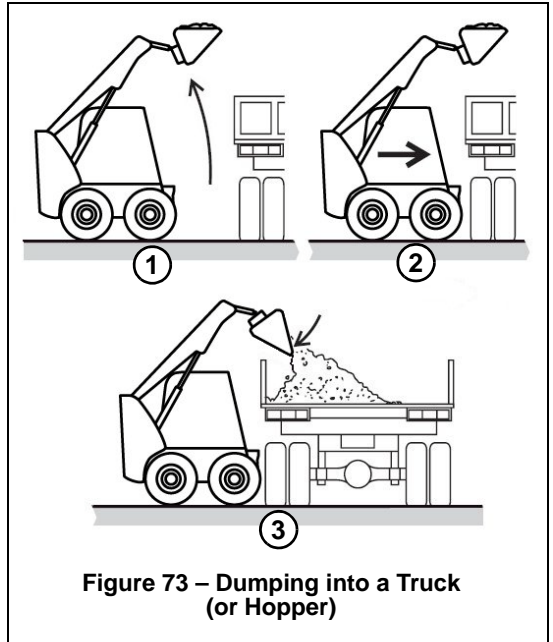

Figure 73 – Dumping into a Truck (or Hopper)
1. (Figure 73) Approach the truck and stop, allowing for clearance to raise the lift arm and loaded bucket, and raise the bucket until the lower edge of the bucket clears the truck bed.